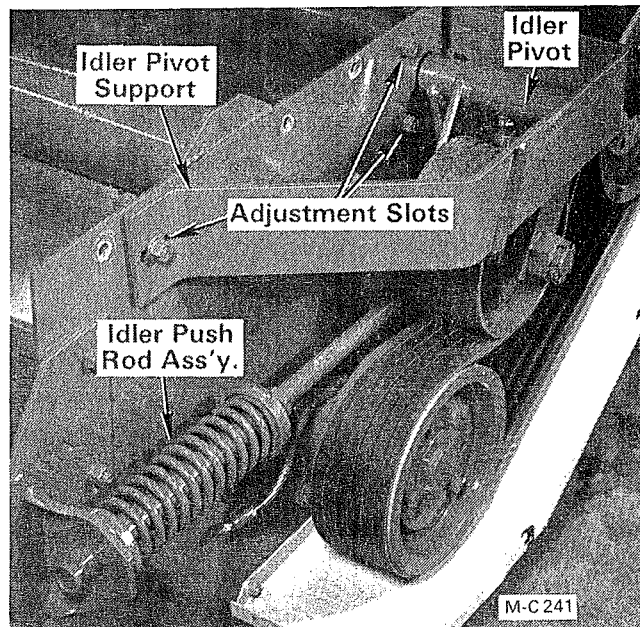

Figure 34
4. The idler pivot support is adjustable horizontally and the idler pivot is adjustable vertically, see Figure 34.